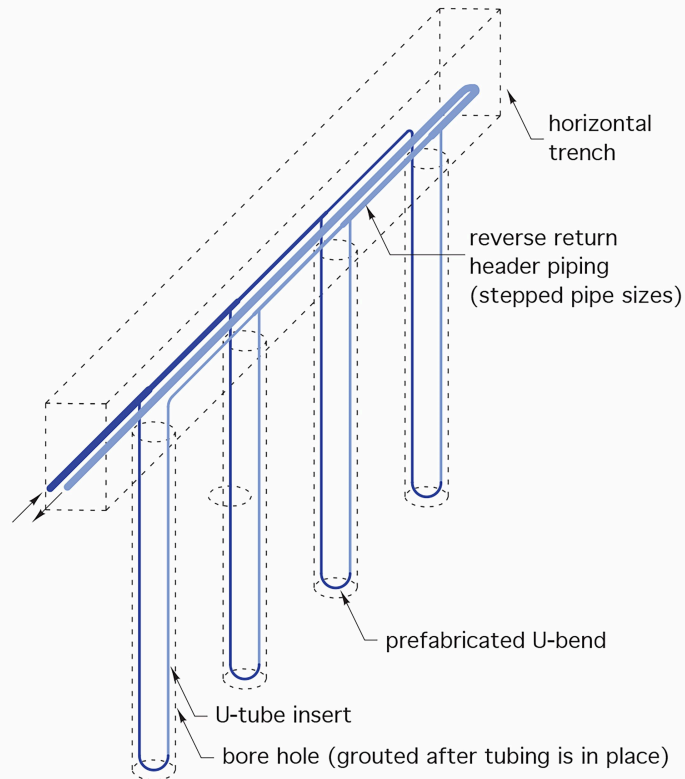

Figure 7 Field of boreholes with vertical loops
- Figure 7 An open-loop system using a lake as the source © Caleffi Hydronic Solutions (<https://www.caleffi.com/usa/en-us>). Used with permission.
If there is insufficient area in which to install horizontal earth loops, such as in an urban neighbourhood, vertical earth loops are a viable option. Equipment that is similar or identical to that which is used by well drillers create 6-inch bore holes that can be many hundreds of feet deep. Figure 7 below shows an example of a vertical field of bore holes.